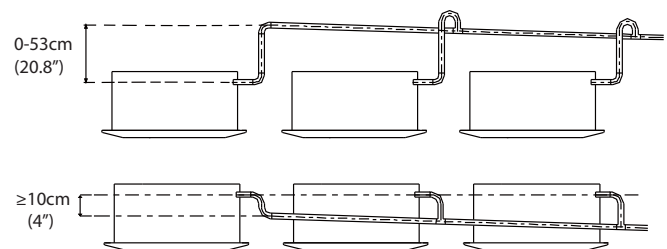

Fig. 6.4
**NOTE:** When connecting multiple drainpipes, install the pipes as shown in Fig 6.4.